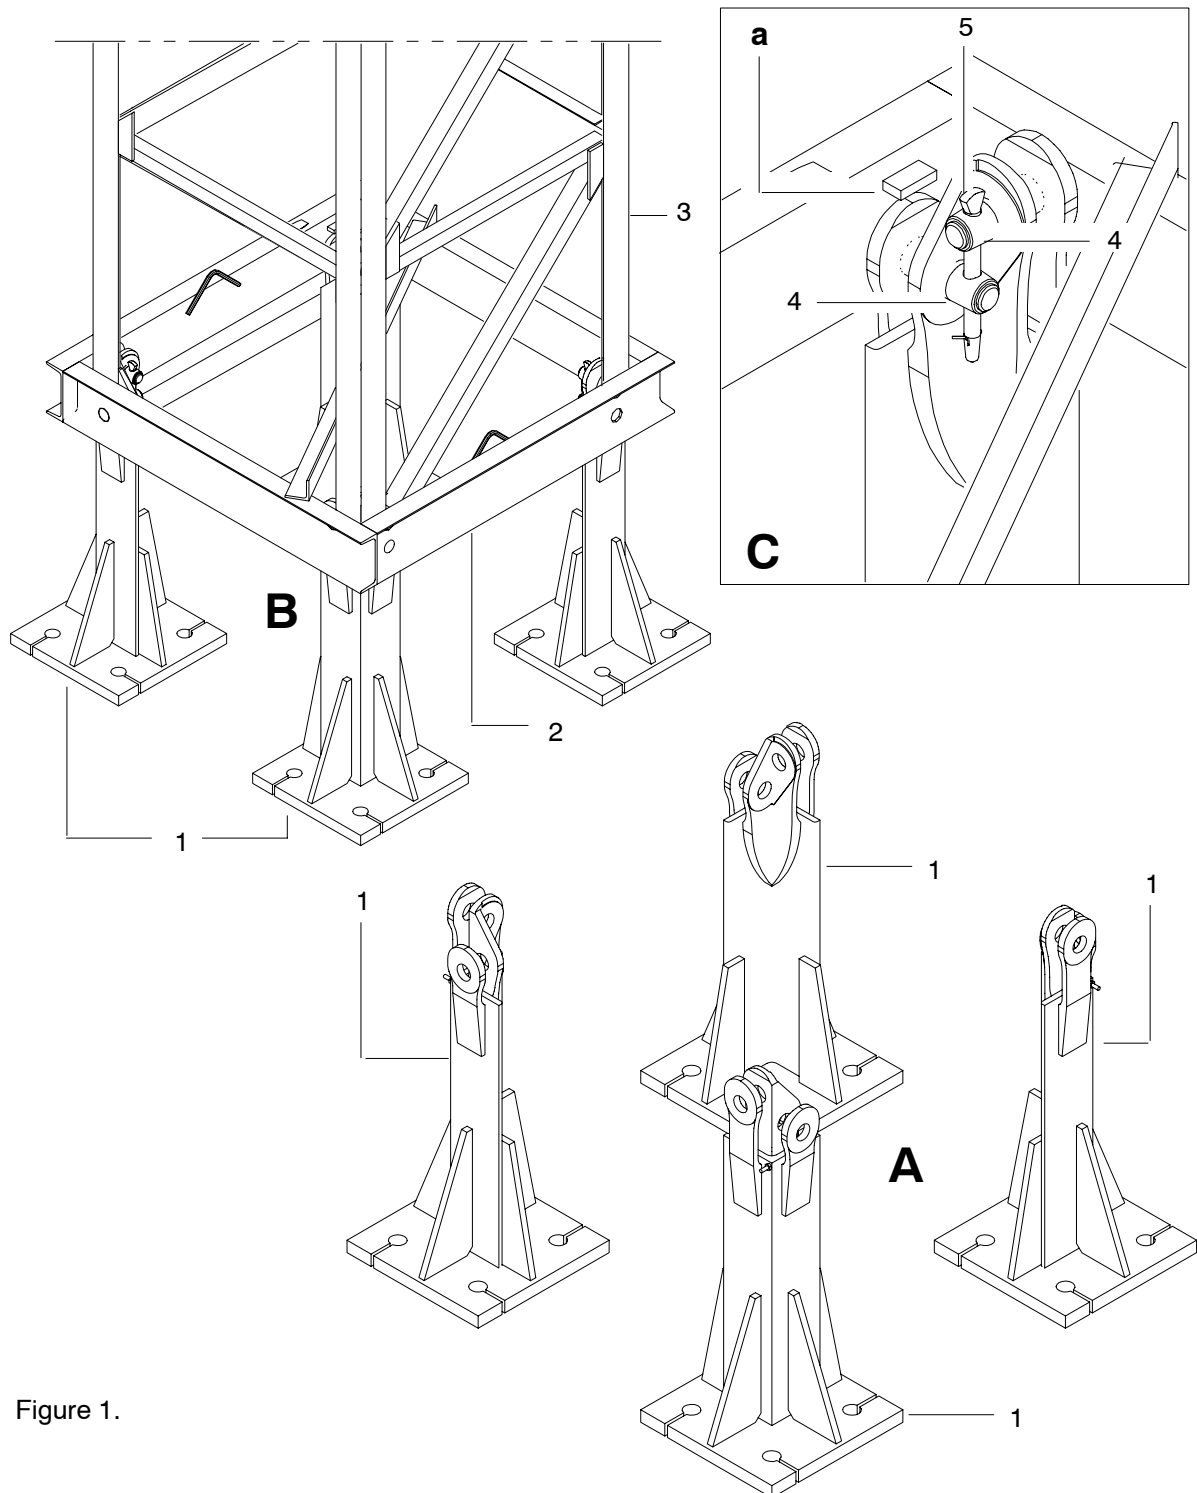

Figure 1.
- ❑ Outside or inside the ditch, arrange the fixing angles (1) by observing their distance (Detail A – Figure 1).
- ❑ Engage the template (2) into the 4 fixing angles; lower it until it comes to rest onto the fishplates at (a) (Detail C – Figure 1).
- ❑ Engage the standard mast section (3) into the fishplates of the fixing angles (Detail B – Figure 1). Raise the template (2) in order to pin-connect the 4 x 2 shafts (4). Block the shafts (4) by means of the pins (5); fix the pins with split pins (Detail C – Figure 1).